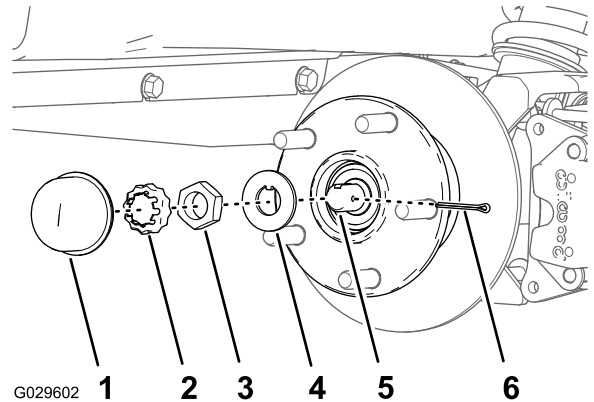
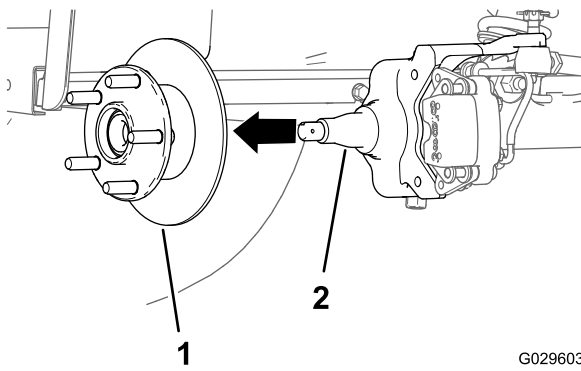

Figure 32
Figure 33
4. Remove the dust cap from the hub (Figure 32).
5. Remove the cotter pin and nut retainer from the spindle and spindle nut (Figure 33).
6. Remove the spindle nut from the spindle, and separate the hub and rotor assembly from the spindle (Figure 32 and Figure 33).